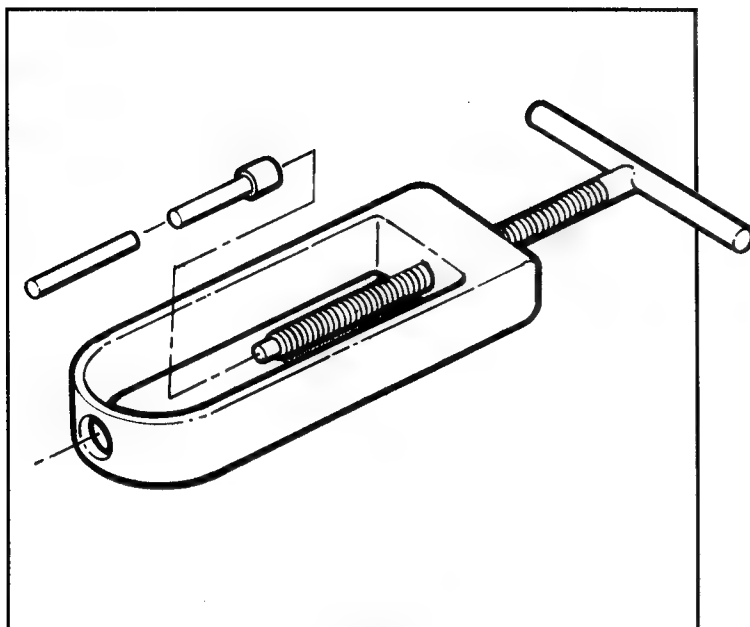

FIGURE 32
1. First remove piston rings, then the snap rings. The snap rings are located on both sides of the piston pin. Utilize piston pin driver, part number 42185. to extract the pin. Line up the driver in order to push the pin without binding. Place a rag under the piston when nearing completion, as the needle bearings may release from the cage. See Figure 32